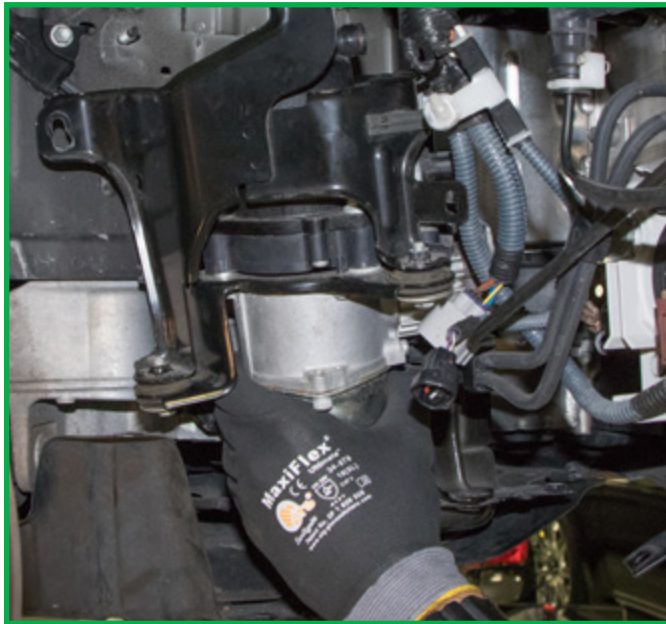

FIGURE 9
9. Remove the compressor from the vehicle. (Figure 9)